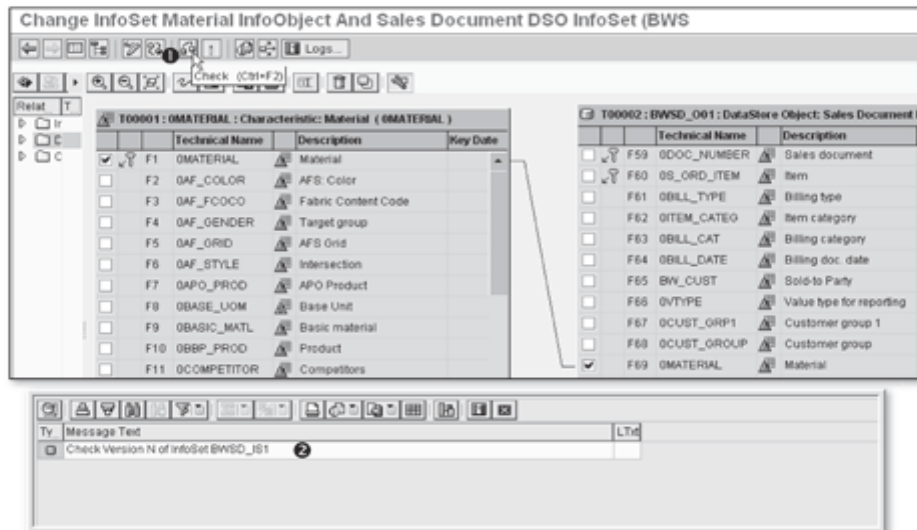

Figure 6.24 Checking the Definition of InfoSet
Now check the definition using the check icon  as shown in ❶ of Figure 6.24.
Checked messages are available at the bottom of the screen as shown in ❷ of Figure 6.24. As the checking of the InfoSet BWSD_IS1 hasn't given any error messages, we can now activate the InfoSet definition in the SAP NetWeaver BW system.